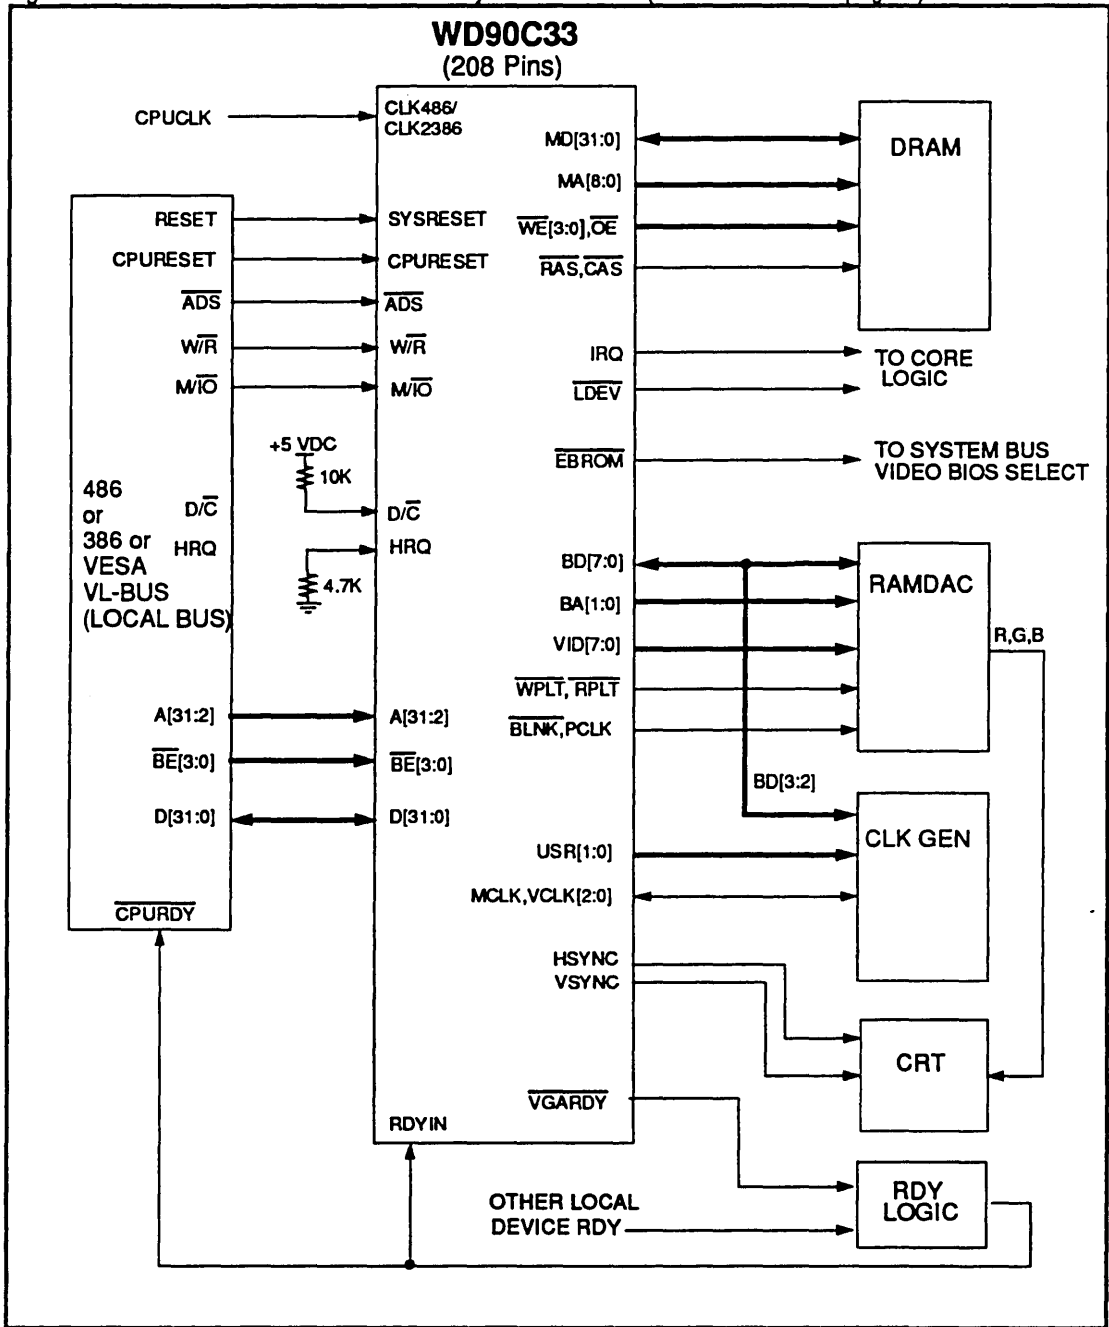

FIGURE 3-3. LOCAL BUS SUBSYSTEM INTERFACE, 32-BIT
- Figure 3-3. Local Bus Subsystem Interface
Figure 3-3 shows the 32-Bit Local Bus Subsystem Interface (Refer to notes on page 9).
NOTES FOR FIGURE 3-3